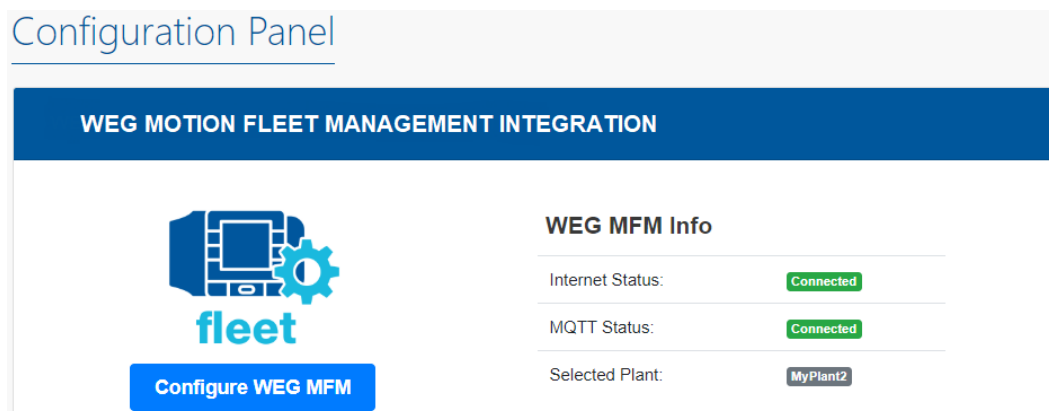

Figure 6.23: Drive Scan linked to the MFM
Step 17 The Drive Scan is already properly configured on the MFM (Figure 6.23).
Wait for the Drive Scan to restart, and it will be ready to be operated (Figure 6.23).